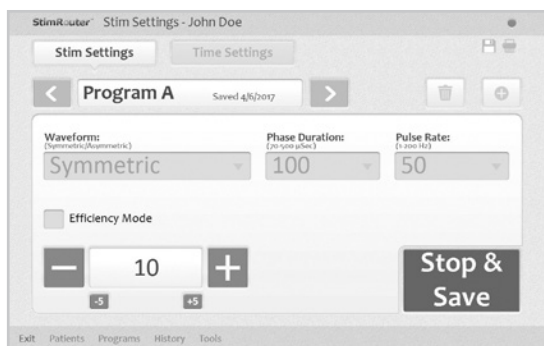

Figure 10-8: Press “Stop & Save” to stop testing and save the current stimulation settings
6. Press the “Stop & Save” button to stop stimulation and save the stimulation settings to the Clinician’s Programmer, Patient Programmer and EPT. See Figure 10-8.